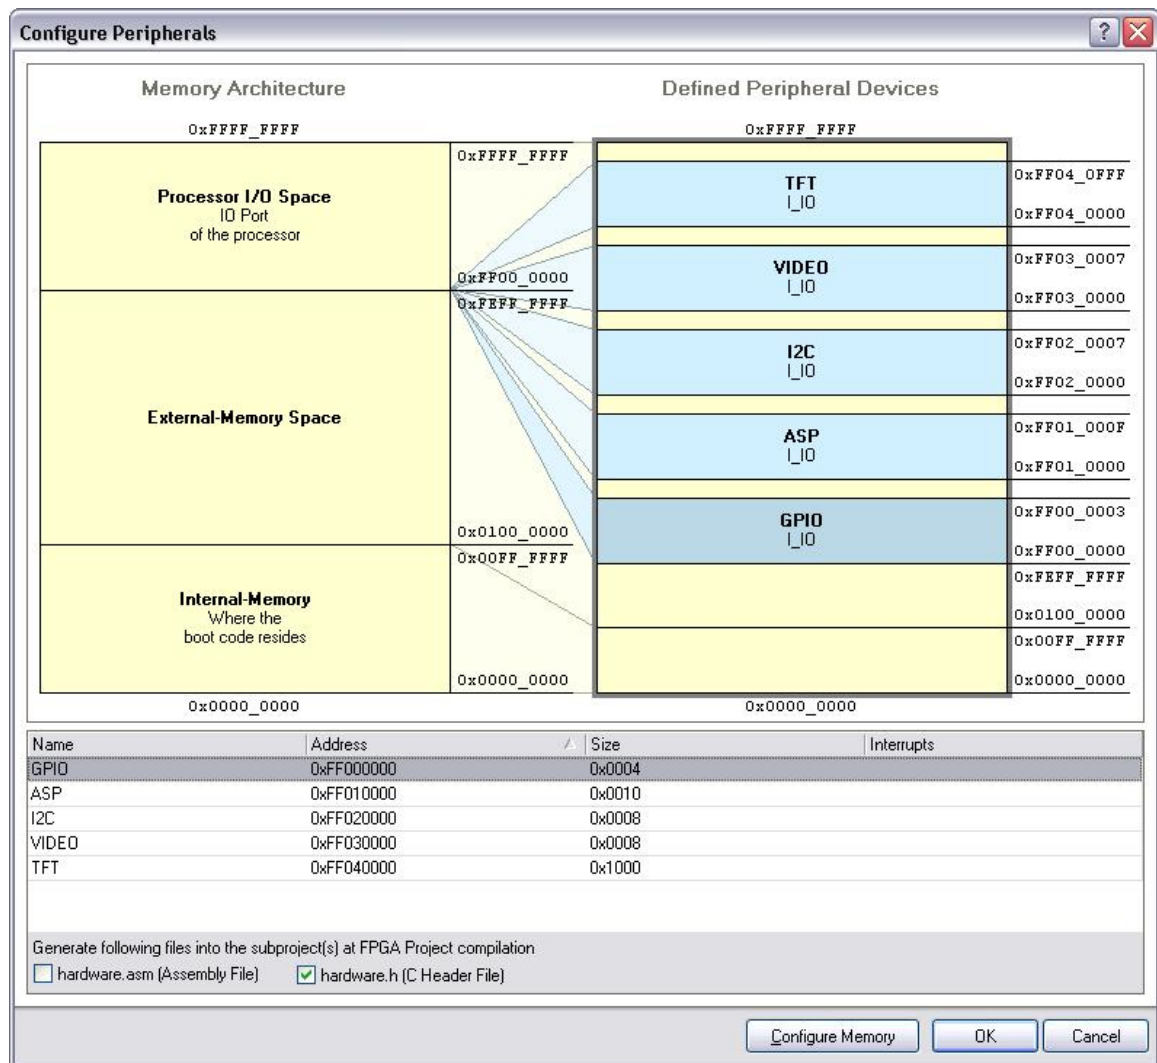

Figure 90. Configuring the processor peripheral memory
4. Ensure that the **hardware.H (C Header File)** checkbox is checked and ensure that the memory configuration above appears as it does in Figure 90.